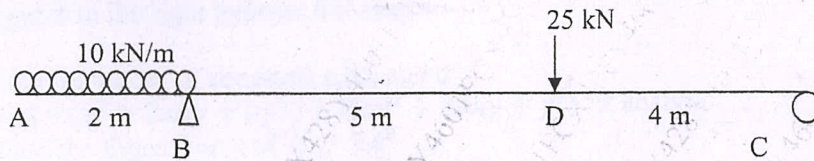

Fig. 5
Q. 5) a) For an overhanging beam shown in fig. 5, determine slope at D & deflection at A. Use Macaulay's double integration method. (10 M)